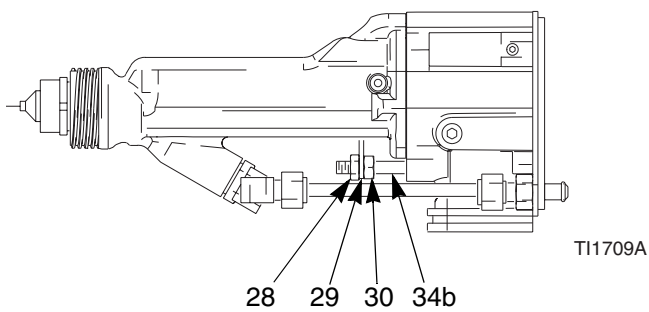

Fig. 25. Actuator Arm
2. Remove the air cap, page 34. Remove the gun shroud (2).
3. Remove the jam nut (28), actuator arm (29), and adjustment nut (30). See FIGURE 25. The fluid nozzle (4) must be in place when removing or installing the jam nut and actuator arm.
1. Install the adjustment nut (30), actuator arm (29), and jam nut (28) onto the piston rod (34b). Note that the jam nut (28) has a slightly larger hex and a thinner profile than the adjustment nut (30). See FIGURE 25 on page 38.